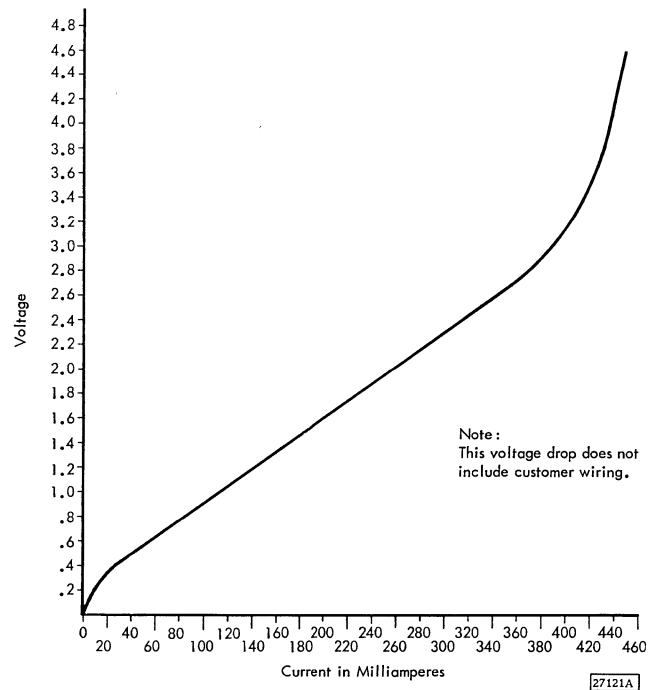

Figure 26. Internal Voltage Drop Characteristics
- "1" (on) = plot from Figure 26